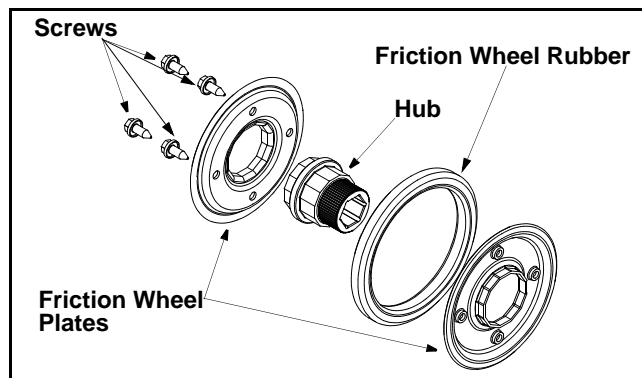

Figure 32
- Remove the four screws from the friction wheel assembly. See Figure 32.
- Reassemble new friction wheel rubber to the friction wheel assembly, tightening the four screws in rotation and with equal force. See Figure 32.